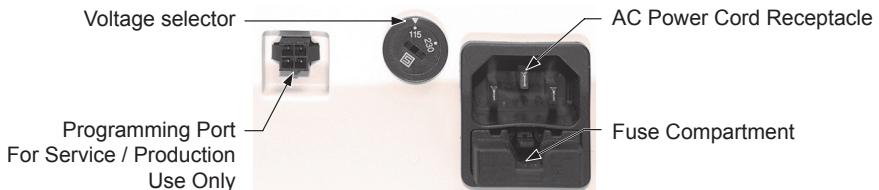

Fig. 2 - Back of device
1. Unpack the console and check that the Voltage Selector is set to the proper voltage. Use the 115V position for 110-120V 60Hz voltages, and the 230V position for 220-250V 50Hz voltages. Always unplug the unit before changing fuses or adjusting the voltage selector. To change voltage, use a flat head screwdriver to turn the Voltage Selector on the back of the console to the proper voltage setting. To change voltage, replace the fuse to match voltage (See “SPECIFICATIONS”, page 36). Replace with 0,3A, 230/250V slow blow fuse (0,6A for 115V). For replacement, press on the black plastic clip of the fuse, pull out and replace with the correct fuse. See Fig. 2.